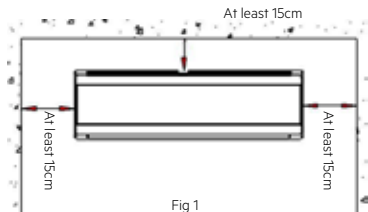

Fig 1
- Ensure the distance as required in Fig.1.
- The back of the indoor unit should be close to the wall (Fig.1).